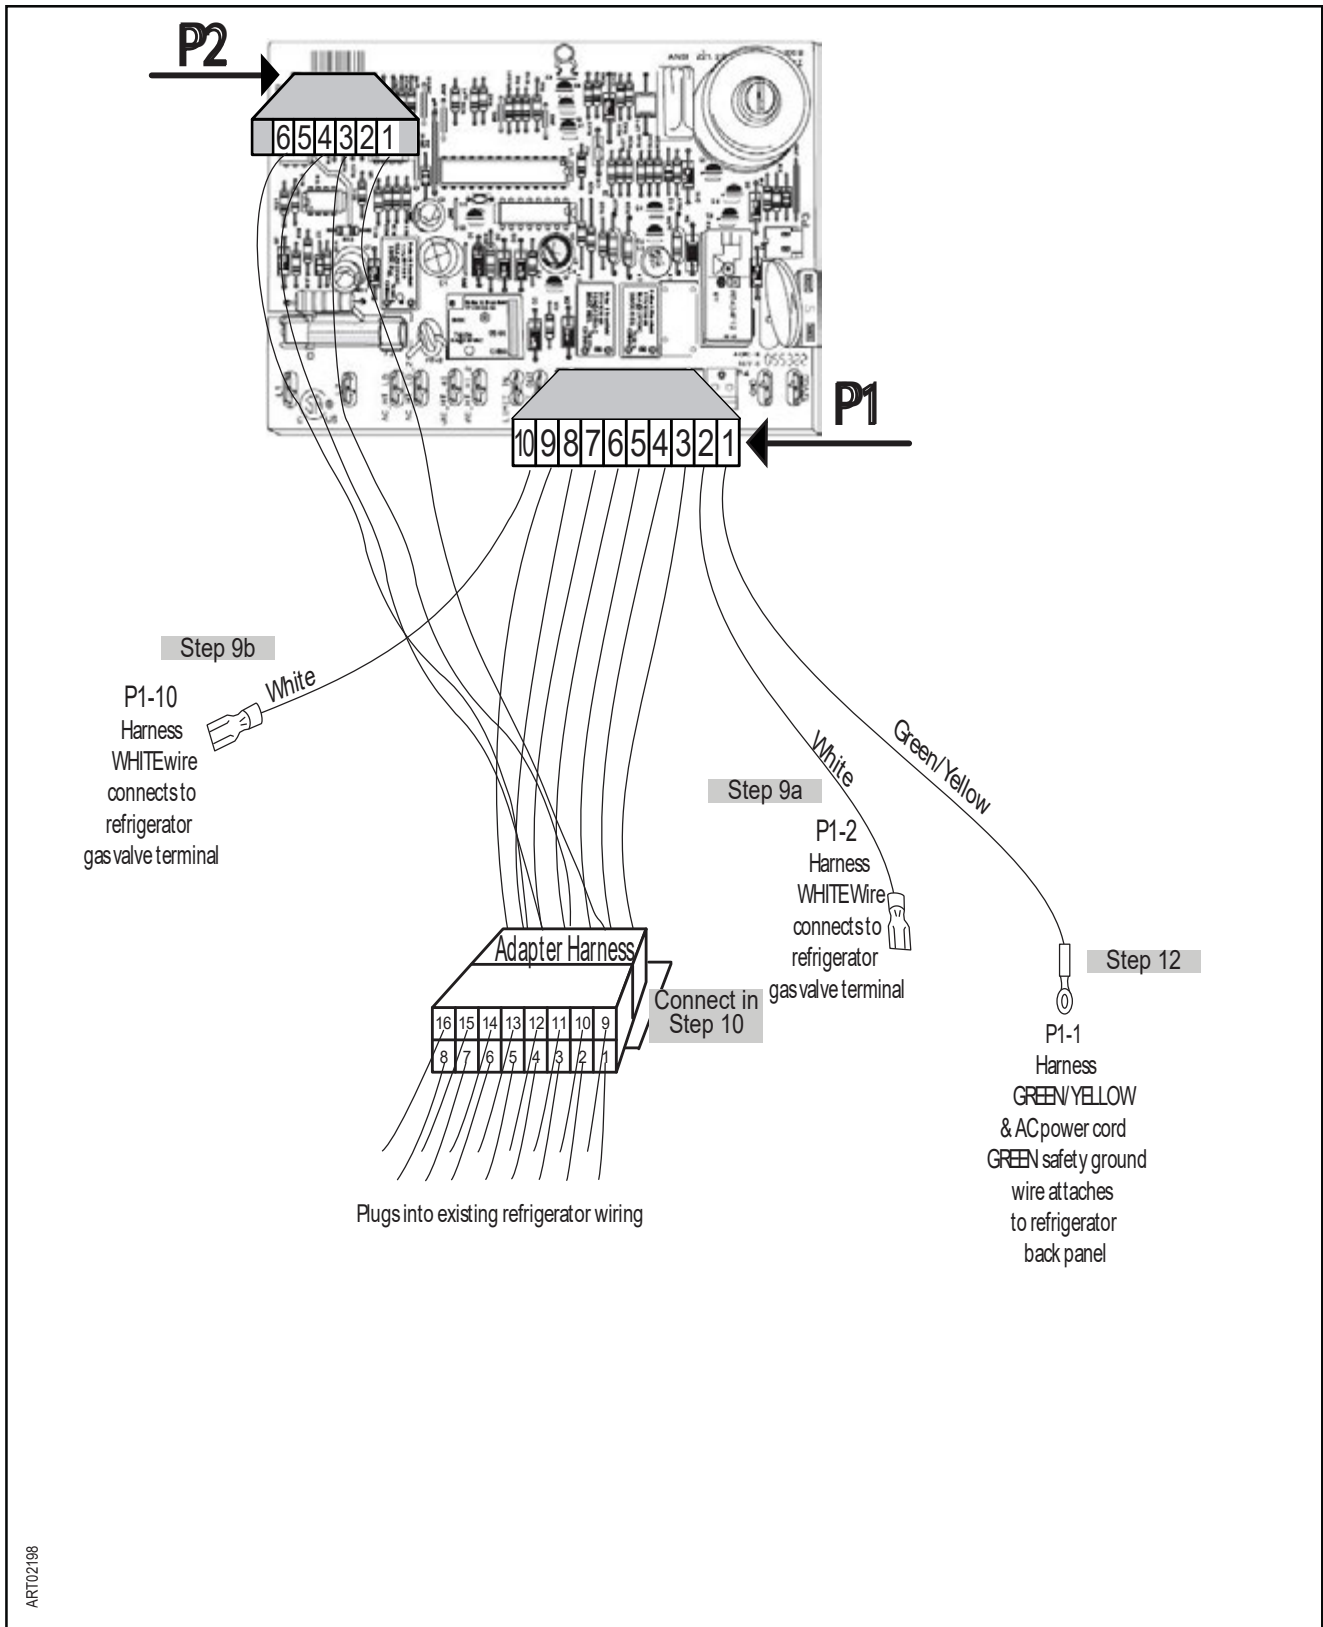

Fig. 17 Power Board with adapter harness connected to existing refrigeration wiring
**NOTE** Refer to Fig. 17 for all the detail references that are described in the remaining procedures.